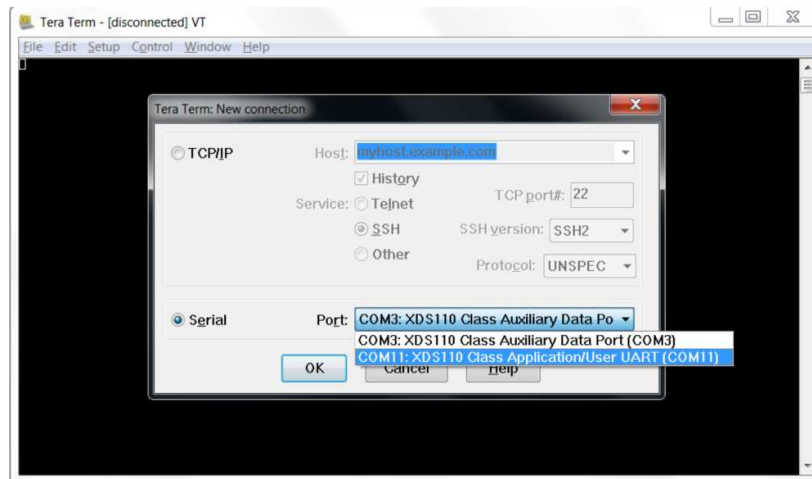

Figure 1-4. Select Serial Port
3. Select the Serial Port, then COM11: XDS110 Class Application/User UART (COM11), as shown in Figure 1-4. Click OK to continue.